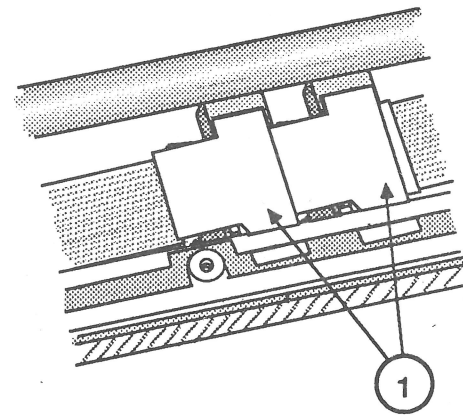

FIGURE 46
3. Remove the two flexible PCB holders (Figure 46, #1) by pulling the holder up from the center.